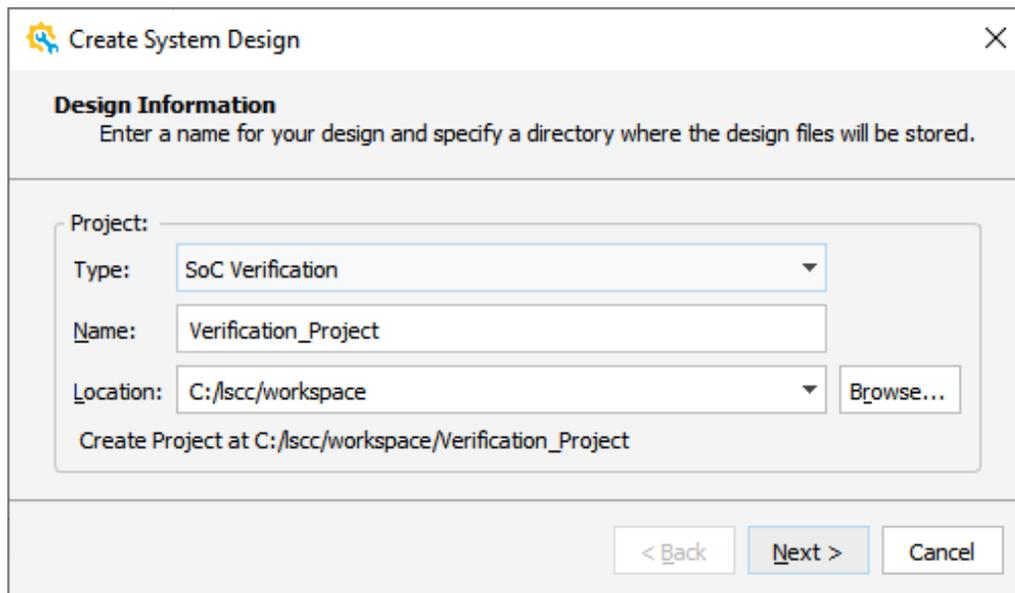

Figure 2.100. Create System Design – Design Information Wizard
1. Choose **File** >  **New Design** from Lattice Propel Builder Menu Bar. The Create System Design wizard opens (Figure 2.100).